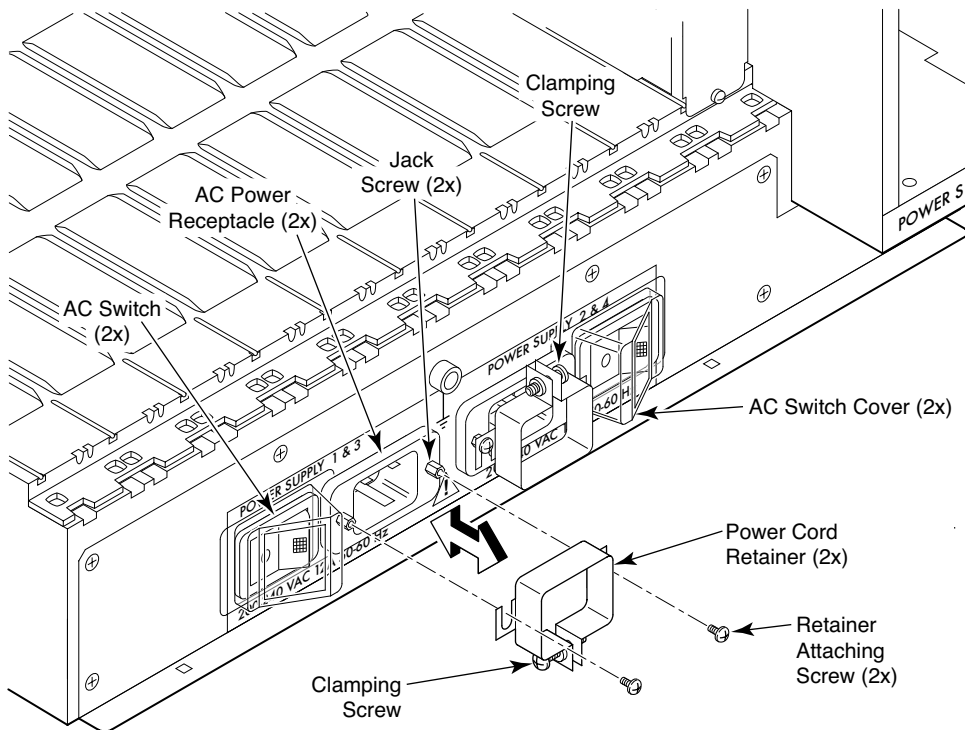

Figure 12 AC panel and power cord retainers
These clear plastic covers fit over the AC switches with their edges tucked underneath the outlet covers, preventing the AC switches from being powered on or off accidentally (see Figure 12).
- a. Orient a retainer against the AC panel as shown in Figure 12.
- Cable management tray—The cable management tray is attached to the bottom of the chassis (see Figure 12) and can be used to route the power cables and other cables down below the chassis or out the sides of the chassis. Routing the cables down through the holes in the management tray requires minimum of 3U (rack units) below the switch.